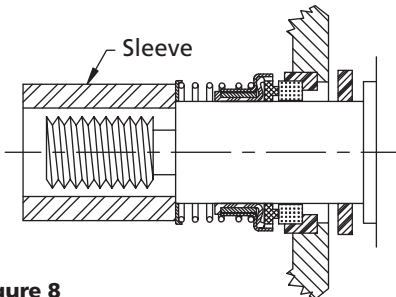

Figure 8
**Rotating member** - Place shaft sleeve (Ref. No. 15) on shaft. Be sure to clean all the oil, if used, off the the sleeve before installing the rotating part of the mechanical seal. If oil gets on the the seal faces the mechanical seal will fail. A safer lubricant would be a soapy solution made with water and a drop of dish soap. Slide rotating member (Ref. No. 7b) on shaft sleeve (washer end first) and seat firmly. A sleeve as shown in Figure 8, will facilitate this operation and prevent the rubber driving ring from pulling out of place as the rotating member is slid along the shaft. Assembly of impeller (Ref. No. 10) automatically sets seal (Ref. No. 11) in proper position.